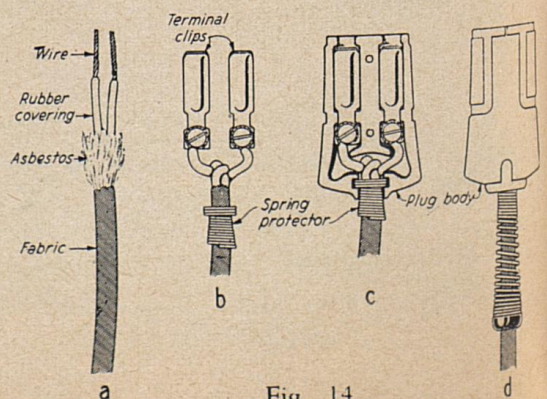

Fig. 14
3. Remove $2\frac{1}{2}$ -inches of outer covering. Fig. 14-a.
4. Run cord through spring protector. Fig. 14-b.
7. Remove about $\frac{1}{2}$ -inch rubber insulation from end of each wire. Fig. 14-a.
8. Make terminal connections. Fig. 14-b.
9. Place terminal clips and spring into one-half of plug. Fig. 14-c.